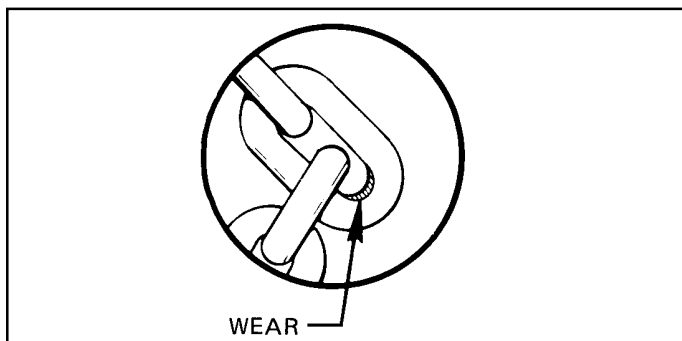
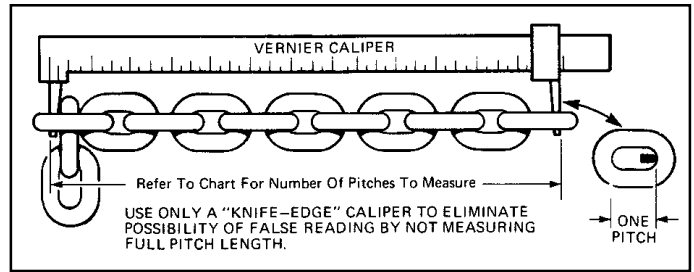

Figure 5-1. Check Chain Wear at Bearing Surfaces Between Links.
Figure 5-2. Checking Coil Chain Using Vernier Caliper.
(1) Operate hoist under load and observe operation of chain over sprocket in both directions of chain travel. Chain should feed smoothly into and away from the sprocket. If chain binds, jumps or is noisy, first see that it is clean and properly lubricated. If trouble persists, inspect chain and mating parts for wear, distortion or other damage.
(2) **Coil Type Load Chain.** Clean chain for inspection. Examine visually for gouges, nicks, weld splatter, corrosion or distorted links. Slacken chain and check bearing surfaces between links for wear, Figure 5-1. Greatest wear will often occur at sprocket at high or low point of lift, particularly when hoist is subjected to repetitive lifting cycles. Case hardness of chain is about .015" deep. Chain must be replaced before the case is worn through. Also check chain for elongation using a vernier caliper (Figure 5-2). Select an unworn, unstretched section of chain (usually at slack or tail end) and measure and record the length over the number of chain links (pitches) indicated in Figure 5-2. Measure and record the same length of a worn section in the load side of the chain. Obtain the amount of wear by subtracting the measurement of the unworn section from the measurement of the worn section. If the result (amount of wear) is greater than the amount specified in the "ALLOWABLE CHAIN WEAR" table, the chain has elongated beyond the maximum allowable length and must be replaced. Chain with excessively pitted, corroded, nicked, gouged, twisted or worn links should be replaced using only factory approved chain. **Never weld or attempt to repair coil chain.**